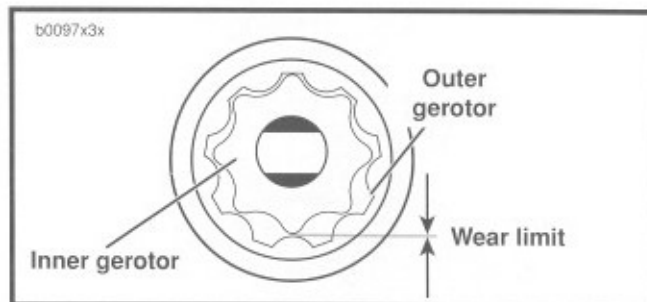

Figure 3-56. Gerotor Wear Limits
2. See Figure 3-56. Inspect both gerotor sets for wear. Mesh pieces of each set together as shown. Use a feeler gauge to determine clearance.